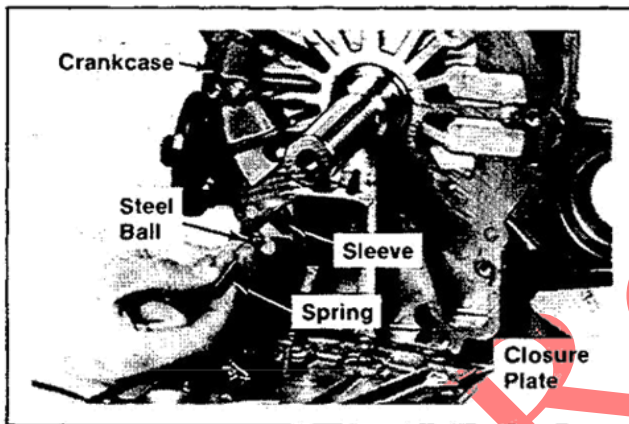

Figure 11-24. Installing Oil Pressure Relief Valve.
2. Install the oil pressure relief valve sleeve, steel ball, and spring. Refer to Figure 11-24.